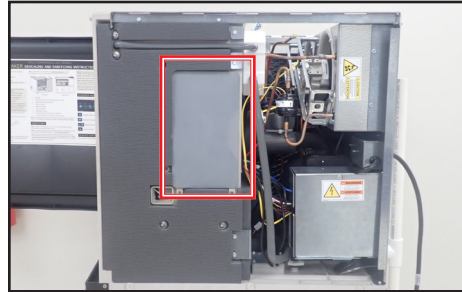

Fig. 7. Circulation pump cover location.
9. Remove the circulation pump cover. See fig. 7.